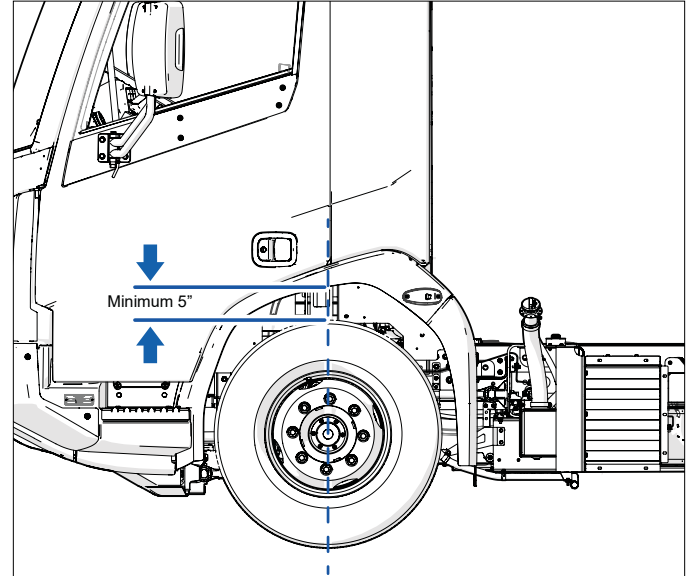
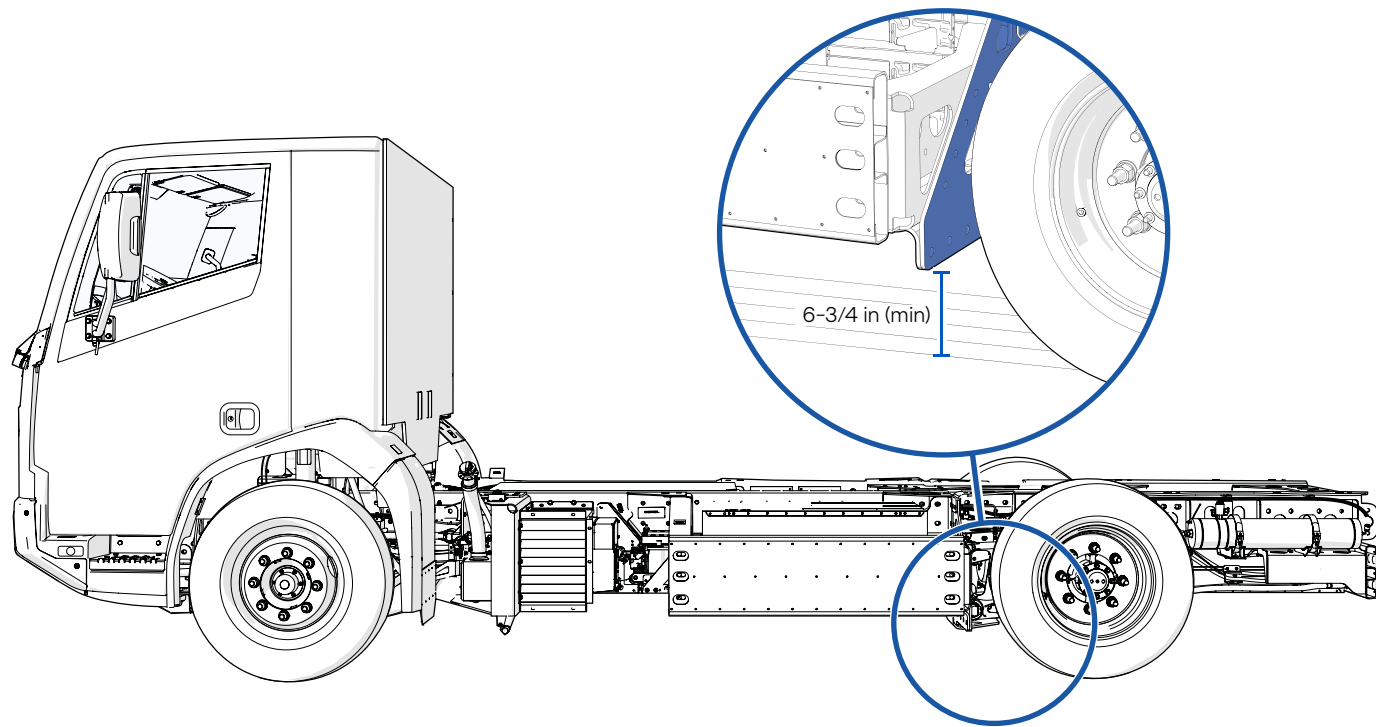

Figure 1 - Minimum front ride height for towing
Figure 2 - Minimum rear clearance for towing
- If the hydraulic suspension is non-functional and the distance between front tire and fender is less than 5 in (13 cm) (**Figure 1**), a flatbed platform towing is required.
- If the hydraulic suspension is non-functional and the distance between front tire and fender is 5 in (13 cm) or more (**Figure 1**), towing by the front axle is allowed. Confirm there is at least 6.75 in (17 cm) between battery bracket and ground (**Figure 2**).